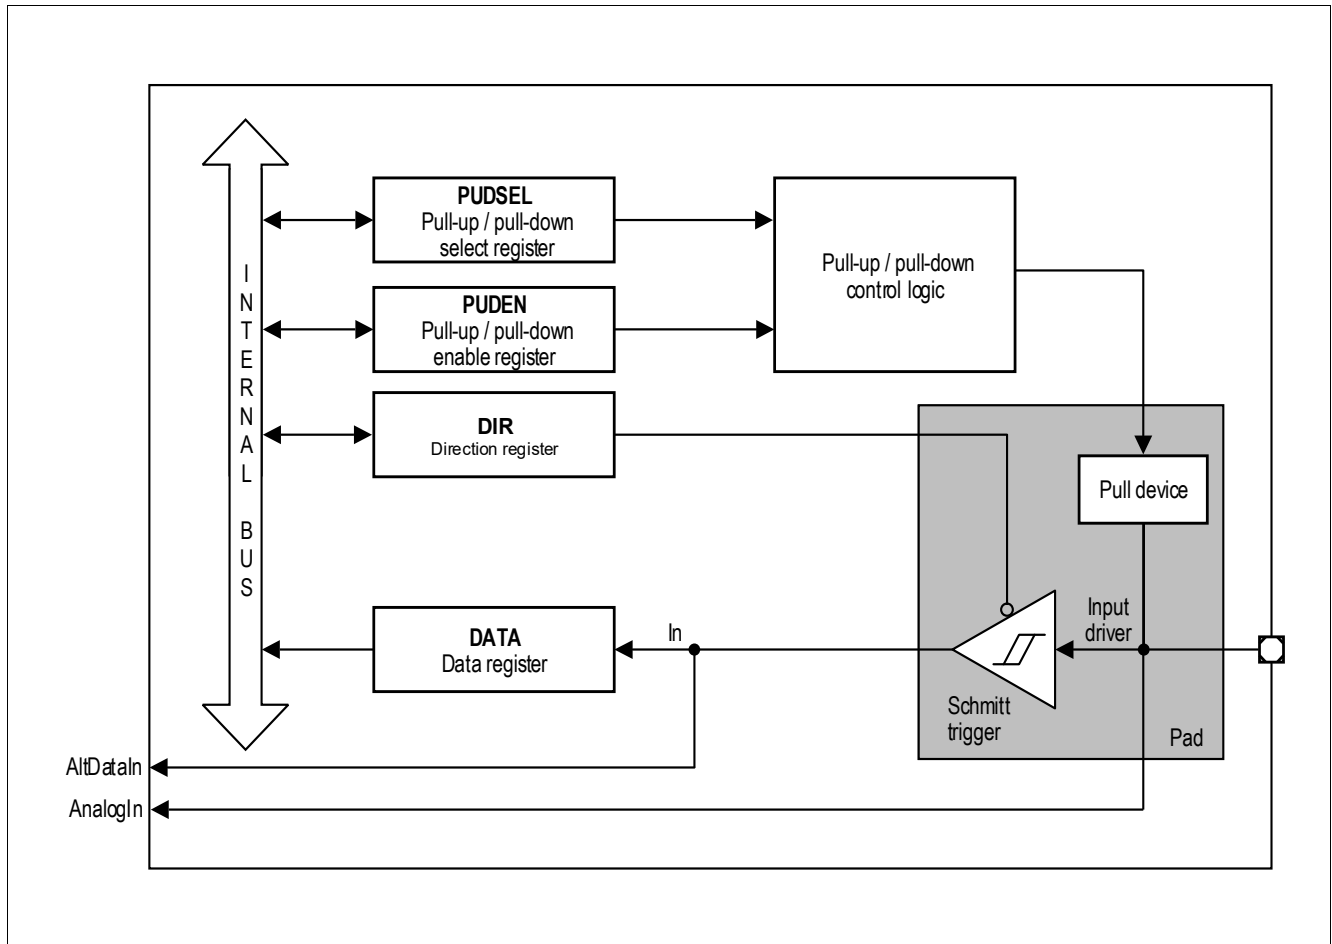

**Figure 16 General structure of a bidirectional port (P0, P1)**
**Figure 16** shows the block diagram of a TLE9862QXA40 bidirectional port pin. Each port pin is equipped with a number of control and data bits, thus enabling very flexible usage of the pin. By defining the contents of the control register, each individual pin can be configured as an input or an output. The user can also configure each pin as an open-drain pin with or without an internal pull-up/pull-down.